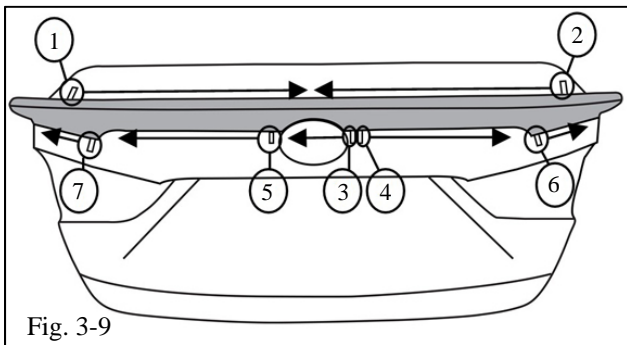

Fig. 3-9
- (o) Reconfirm the positioning of the spoiler on the deck lid. Gently pull the release liner tape in the order and the direction indicated in Fig. 3-9.